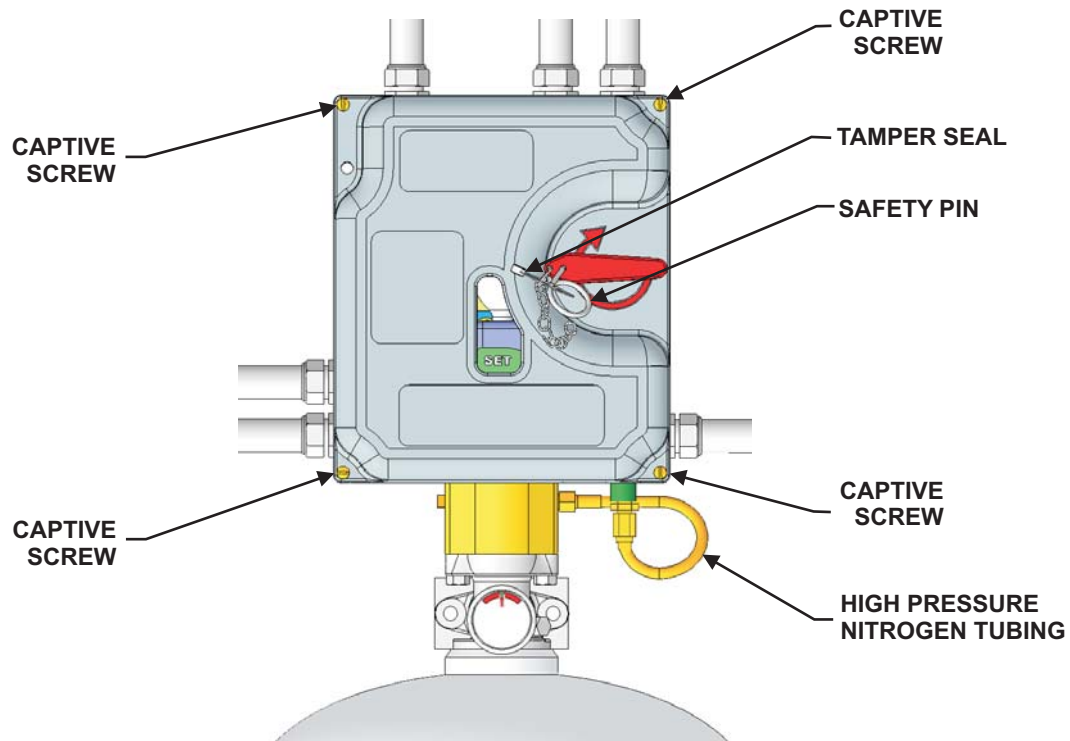

Figure 4-86. Cylinder Mounted UCH Control System
20. Secure the High Pressure Nitrogen Tubing back onto the bottom of the UCH Control System. Ensure that the fit is properly snug to prevent leakage. Refer to Figure 4-86.